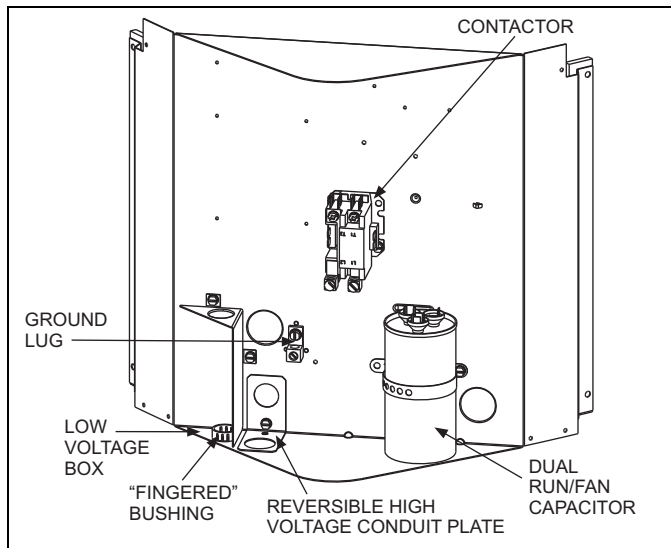
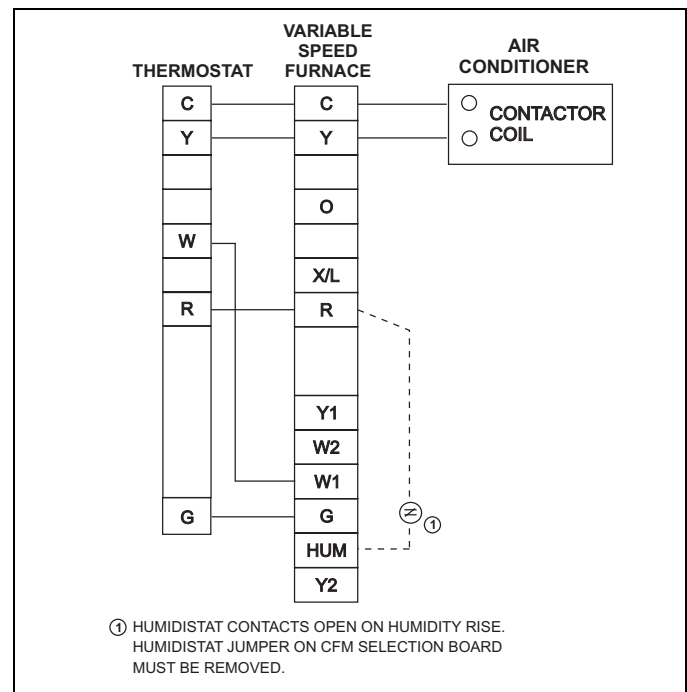

FIGURE 7: Outdoor Unit Control Box
FIGURE 8: Typical Furnace Thermostat Wiring
4. Route wires from disconnect through power wiring opening provided and into the unit control box as shown in Figure 7.
1. Route low voltage wiring into bottom of control box as shown in Figure 7. Make low voltage wiring connections inside the low voltage box per Figures 8 & 9.